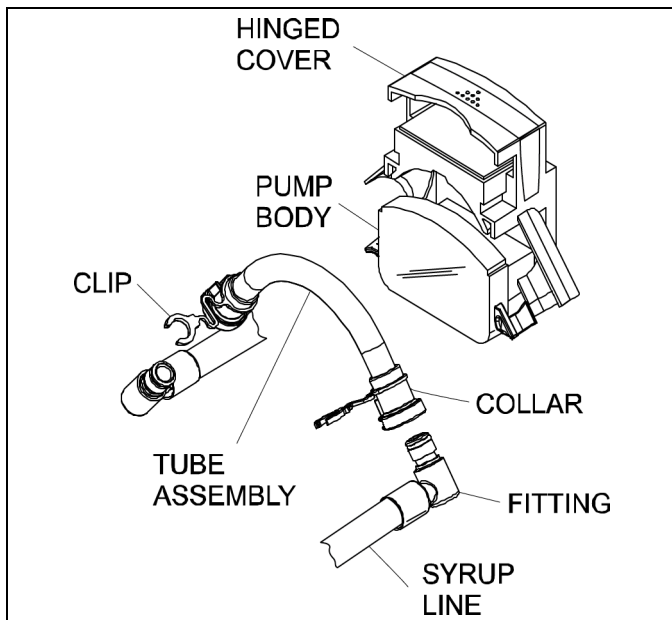

Figure 6-128
12. Grasp the pump tube by both ends and remove it from the pump body. (See Figure 6-128.)